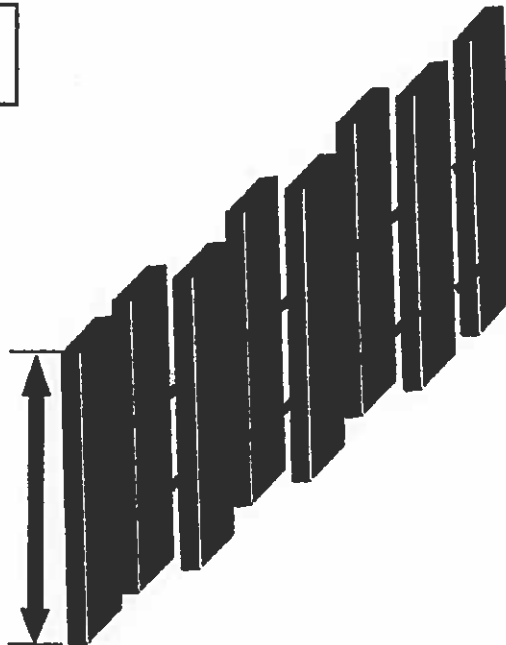

FIGURE 2: WYNGATE OR BOARD-ON-BOARD
- A. The type of fencing must be alternating board on board, Wyngate style or Stockade with flat top (see figure 2 and 3).